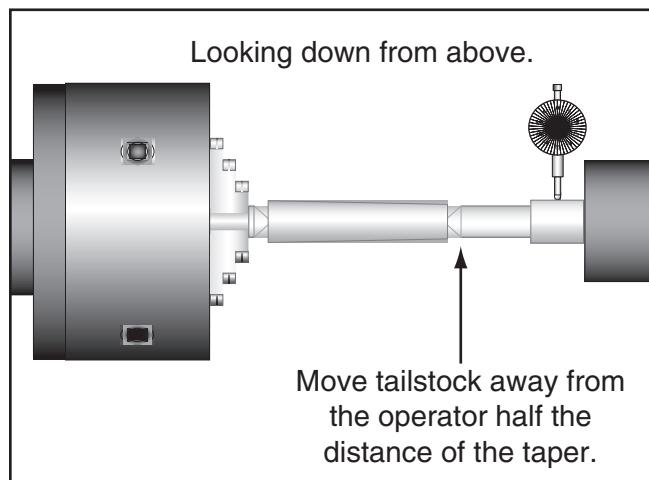

Figure 32. Adjust tailstock away from the operator.
- If the machined workpiece is *thinner* at the tailstock end, move the tailstock *away* from the operator $\frac{1}{2}$ the distance of the amount of taper (see **Figure 32**).